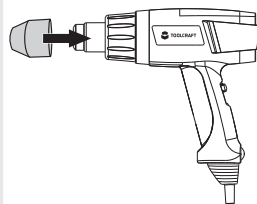

Fig.2
- Attach the required cap nozzle. (Fig. 2)